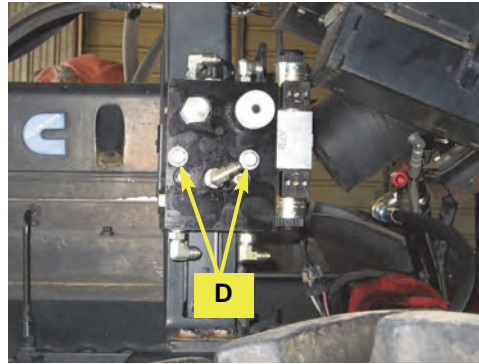

Figure 2e: Mounted automated steering block
- c. Use the provided mounting hardware in group (D) to attach the automated steering block, as prepared in step 1, to the mounting bracket (C) (Figure 2e).